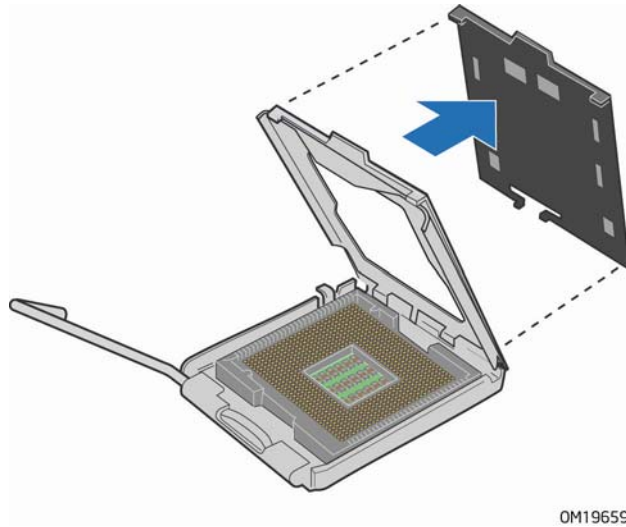

Figure 8. Remove the Protective Socket Cover
4. Remove the plastic protective socket cover from the load plate (see Figure 8). Do not discard the protective socket cover. Always replace the socket cover if the processor is removed from the socket.